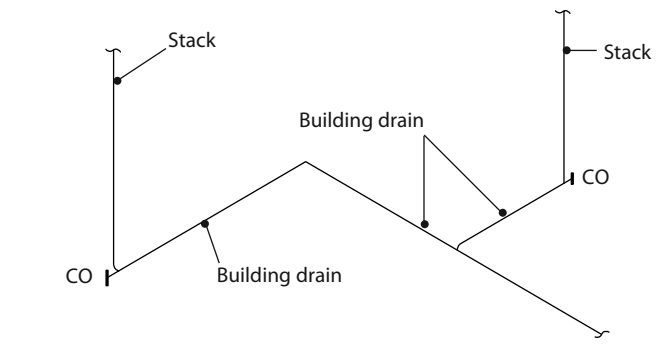

Figure 5-6
- 4) Accessible cleanouts are required on all grade level horizontal drainage piping. Check your local code for the separation distances. For each change of direction greater than 45 degrees (*IPC*) or 135 degrees (*UPC*) you must provide a cleanout. Figure 5-6 shows required cleanout locations for compliance with the *IPC*.